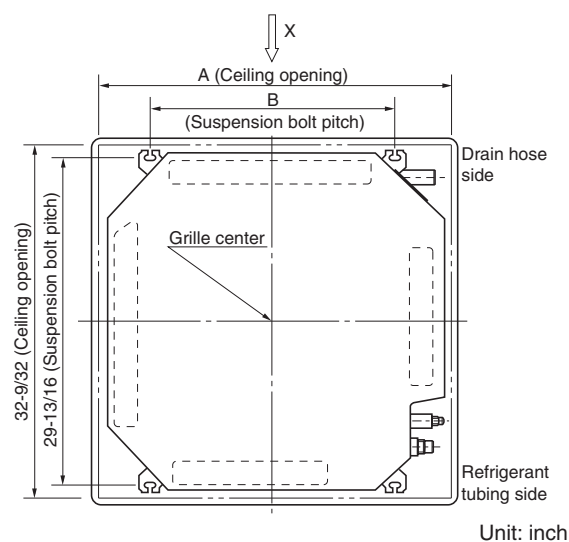

Fig. 1-13
- Follow Fig. 1-13 and Table 1-4 to make the holes in the ceiling.